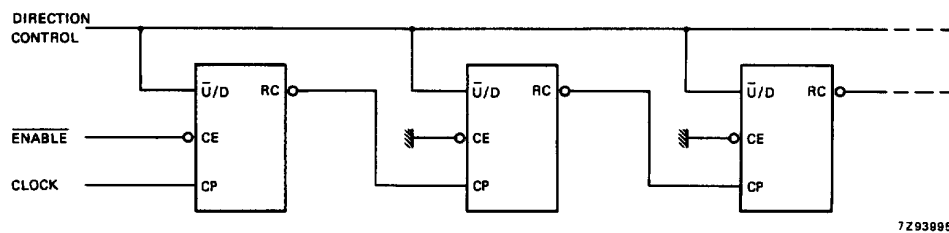
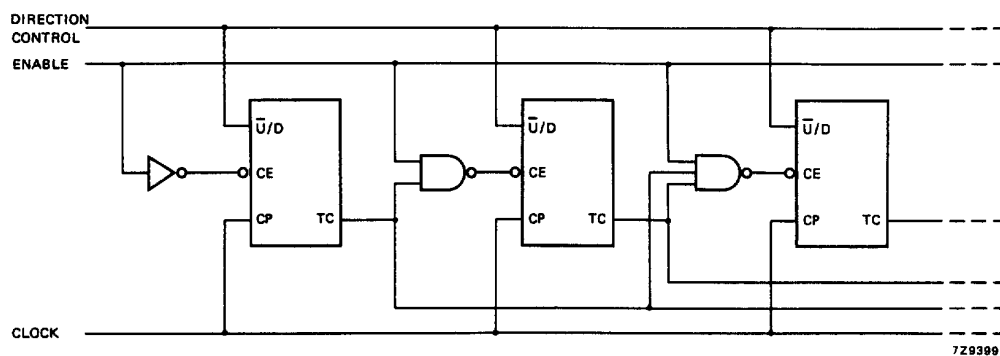

Fig.5 N-stage ripple counter using ripple clock.
Fig.7 Synchronous n-stage counter with parallel gated carry/borrow.
Overflow/underflow indications are provided by two types of outputs, the terminal count (TC) and ripple clock ( $\overline{RC}$ ). The TC output is normally LOW and goes HIGH when a circuit reaches zero in the count-down mode or reaches "9" in the count-up-mode. The TC output will remain HIGH until a state change occurs, either by counting or presetting, or until  $\overline{UD}$  is changed. Do not use the TC output as a clock signal because it is subject to decoding spikes. The TC signal is used internally to enable the  $\overline{RC}$  output. When TC is HIGH and  $\overline{CE}$  is LOW, the  $\overline{RC}$  output follows the clock pulse (CP). This feature simplifies the design of multistage counters as shown in Figs 5 and 6.
In Fig.5, each  $\overline{RC}$  output is used as the clock input to the next higher stage. It is only necessary to inhibit the first stage to prevent counting in all stages, since a HIGH on  $\overline{CE}$  inhibits the  $\overline{RC}$  output pulse as indicated in the function table. The timing skew between state changes in the first and last stages is represented by the cumulative delay of the clock as it ripples through the preceding stages. This can be a disadvantage of this configuration in some applications.
In Fig.7, the configuration shown avoids ripple delays and their associated restrictions. Combining the TC signals from all the preceding stages forms the  $\overline{CE}$  input for a given stage. An enable must be included in each carry gate in order to inhibit counting. The TC output of a given stage is not affected by its own  $\overline{CE}$  signal therefore the simple inhibit scheme of Figs 5 and 6 does not apply.